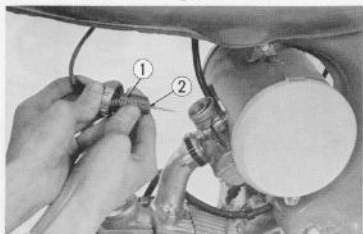

Fig. 4.4 Removing throttle cable from carburetor
3. Disconnect the throttle cable at the throttle valve ① by unscrewing the carburetor cap, pulling out the throttle valve and then unhooking the throttle cable ②. (Fig. 4.4)